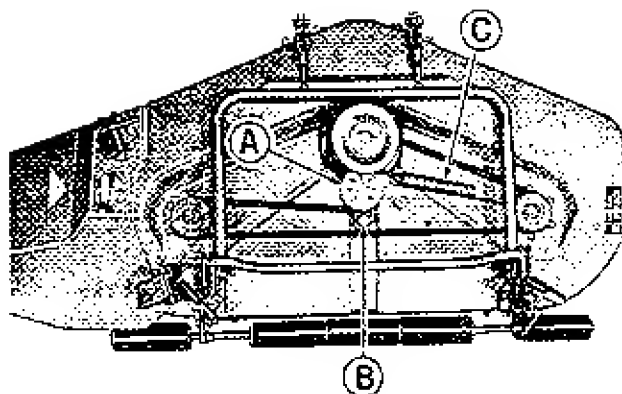

Figure 11. Mower spindle drive belt shown with belt covers removed.
2. See figure 11. Remove the broken or damaged belt.
3. Insure the idler pulley (A) is free to pivot so the spring tension will be applied to the belt. Lubricate the idler pulley pivot at (B) with a few drops of SAE 30 engine oil.
5. Install a new Simplicity belt as shown in figure 11, and fasten the belt tension spring (C).